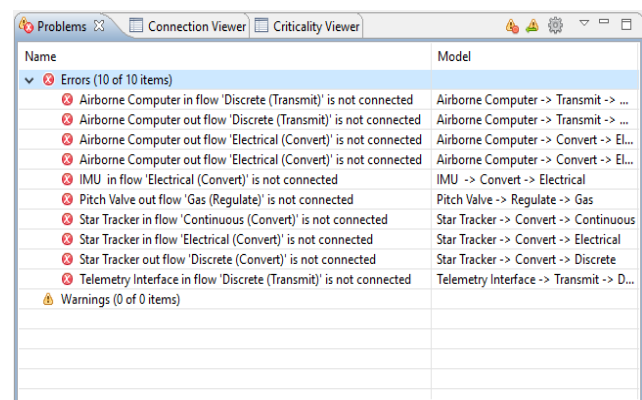

Figure B61: MADE Problem Reporting Window
- 1) In the instantaneous and live model *Problems* tab (Figure B61) a modeler can view the errors and warnings that need to be addressed. The problems reported can be connection errors within *in-flows* and *out-flows* or between part/component/subsystem blocks.